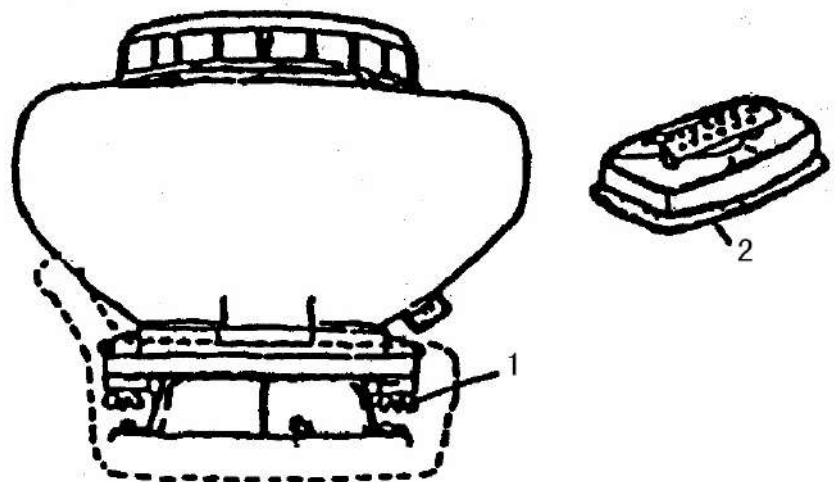

Fig.1 1.Nut 2.Dusting Plate
1) Remove the tow wing nuts fixed on the chemical tank and take down the tank. Change dusting lid plate for spraying lid plate, then assemble the chemical tank and screw down wing nuts as shown in Fig.1.